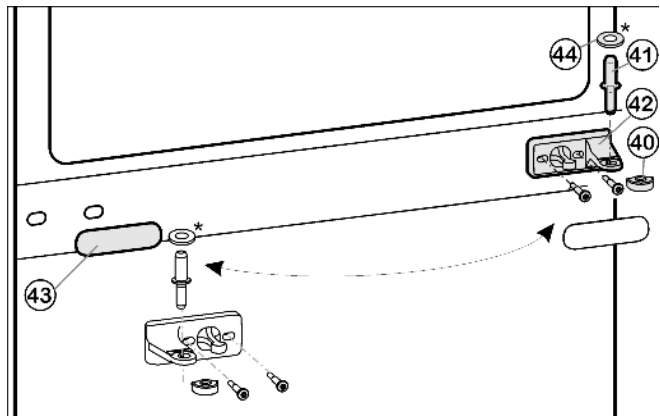

Fig. 13
- ▶ Draw the middle bearing pin *Fig. 13 (41)* out of the turn hinge and lower door.
- ▶ Draw the middle bearing pin *Fig. 13 (41)* together with the washer *Fig. 13 (44)* out of the turn hinge and lower door.
- ▶ Remove the plastic cap *Fig. 13 (40)*.
- ▶ Detach the middle turn hinge *Fig. 13 (42)*.
- ▶ Carefully detach the cover panel *Fig. 13 (43)*.
- ▶ Turn the middle turn hinge *Fig. 13 (42)* through 180° and screw it firmly into place on the new hinge side (**with 4 Nm**).
- ▶ Turn the cover panel *Fig. 13 (43)* through 180° and snap it into place again on the new handle side.
- ▶ Place the plastic cap *Fig. 13 (40)* back onto the middle turn hinge *Fig. 13 (42)*.
- ▶ Insert middle bearing pin *Fig. 13 (41)* through middle turn hinge *Fig. 13 (42)* into the lower door.
- ▶ Attach the washer *Fig. 13 (44)* to the middle bearing pin *Fig. 13 (41)*.